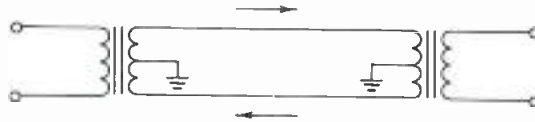

Figure 3. Balancing a line using transformers at each end.
In order to balance the line, both sides are adjusted to carry identical, but opposite-in-sign electrical information with respect to the ground. In other words, we can say the signal in both wires are 180 degrees out of phase and equal in amplitude to each other. The easiest method of balancing the line is to use balancing transformers at each side of the line, as shown in FIGURE 3.
Figure 3. At (A) a simplified equivalent transformer circuit is shown, (B) is a low-frequency equivalent circuit, (C) a high-frequency equivalent circuit, and (D) is an efficiency equivalent circuit.
Up to this point, we have assumed a perfect transformer. Since the perfect transformer does not exist, we have to consider how the actual transformer deviates from the ideal, and how this affects the circuits in which we employ it. The simplified equivalent circuit of an actual transformer with a 1:1 turns ratio is shown in FIGURE 3(A). Resistors R_p and R_s represent the d.c. resistance of the primary and secondary winding, respectively. L_m is a shunt inductance which is present due to the magnetizing current, i.e. that current which is required to produce flux in the core. This small amount of current needed to magnetize the core is 90 degrees out of phase with the load current, which is why it appears as a shunt inductance. The smaller the magnetizing current, the higher the value of L_m . L_s , or leakage reactance, is there because the coupling coefficient is less than unity, and represents the imperfect cancellation of inductive currents discussed above in reference to FIGURE 1(B). L_s is in series with the load current. The shunt capacitance C_s represents the stray capacity existing between the windings. The quantities R_p , R_s , L_m , and C_s , in conjunction with the source and load impedance, determine the band width of the transformer.
If we consider the low frequency end of the band, we can further simplify the circuit by eliminating L_s , whose series reactance at these frequencies is negligible, and C_s , whose shunt reactance at these frequencies is very high. If we lump R_p and R_s with the generator and load resistance respectively, we have the circuit shown in FIGURE 3(B). The low frequency limit of the transformer response is determined by the following formula:
At high frequencies, the reactance of L_m is large and we can ignore it in the transformer high frequency equivalent circuit. We also make the simplifying assumption that C_s is small enough to ignore so that we arrive at the high frequency equivalent circuit of FIGURE 3(C). The high frequency limit of the transformer is determined by the following formula:
The effect of the primary and secondary d.c. resistance is to lower the transformer efficiency. FIGURE 3(D) shows the equivalent circuit as it relates to input/output efficiency in the midband. Part of the power intended for the load is dissipated in resistors R_p and R_s . When source or load impedance is below the rated value, efficiency will drop. Engineers at the United Transformer Company (UTC), one of the leading manufacturers of transformers, explained to me during a visit there that typical losses in a well designed transformer amount to about 1 to 1½ dB—or we can say that transformer efficiency is about 90 to 85 per cent. UTC design engineers stated that it is well within the state-of-the-art to build transformers with higher efficiencies, but that size and other economies dictate a compromise design with moderate losses.
Figure 3. The winding process is shown. The laminations are held stationary while the coil form is friction driven by the rubber wheel at the bottom. The wire comes from the back of the winding machine.